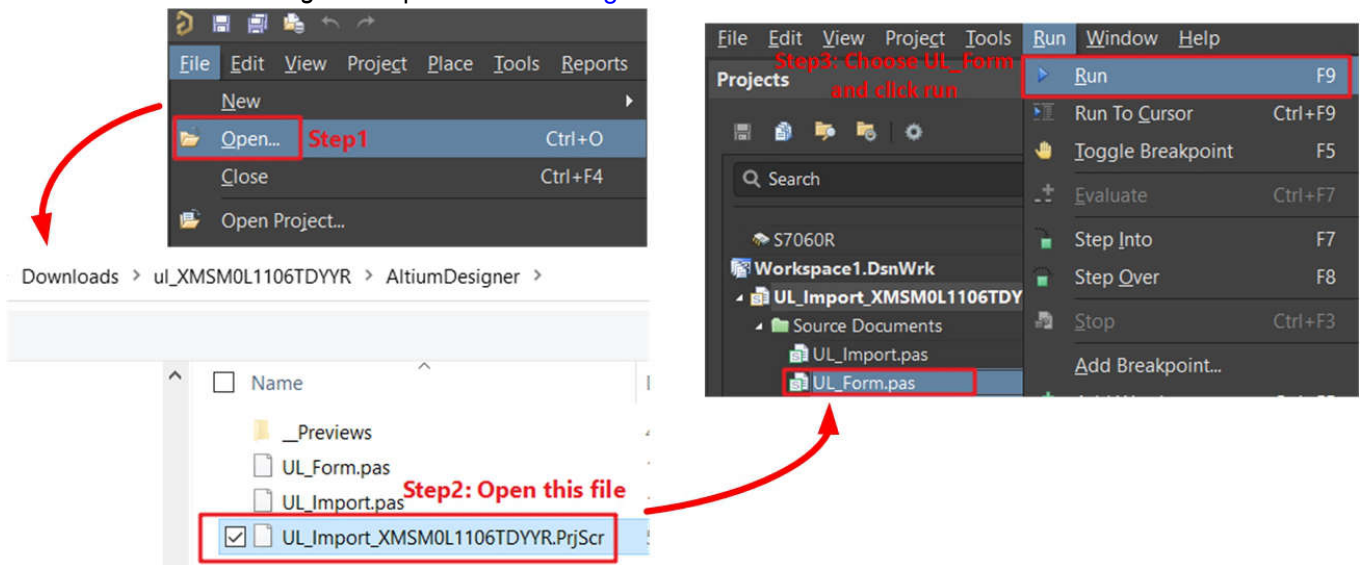

Figure A-14. Run Altium Designer Script
4. Run the *Altium Designer* script as shown in Figure A-14.